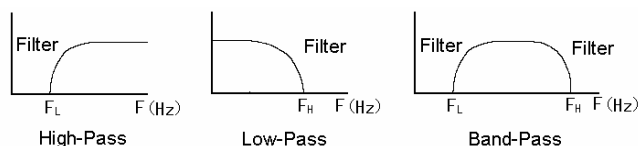

Figure 3.2.25 Filtering Sketch Map
- 4) **Digital Filtering:** It is made up of three filtering approaches, **low-pass**, **high-pass** and **band-pass**. The low-pass filtering is to filter the signal which is larger than a certain cut-off frequency. The high-pass filtering, however, is to filter the signal which is smaller than a certain cut-off frequency. The band-pass filtering is to filter the signal which is larger than the high cut-off frequency and smaller than the low cut-off frequency. Figure 3.2.25 is a sketch map of filtering. In analysis, the low-pass filtering is frequently used. The value of cut-off frequency can be set from experience. The longer the pile is, the lower the low-pass cut-off frequency. The setting of the value of cut-off frequency can be also based on the spectrum analysis of signals.